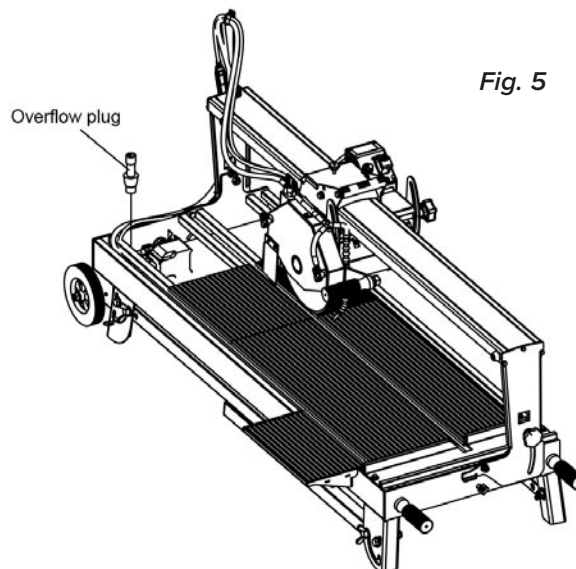

Fig. 5
2. Insert the thin end of the tube into the rear hole next to the water pump. (see figure 5)